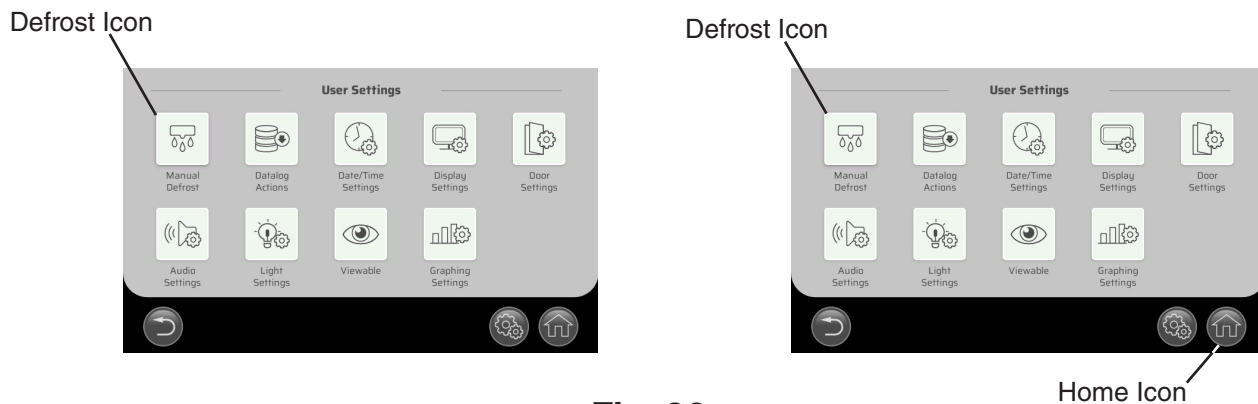

Fig. 26
2) Press the Manual Defrost icon. See Fig. 26. Defrost icon turns orange and defrost initiates.